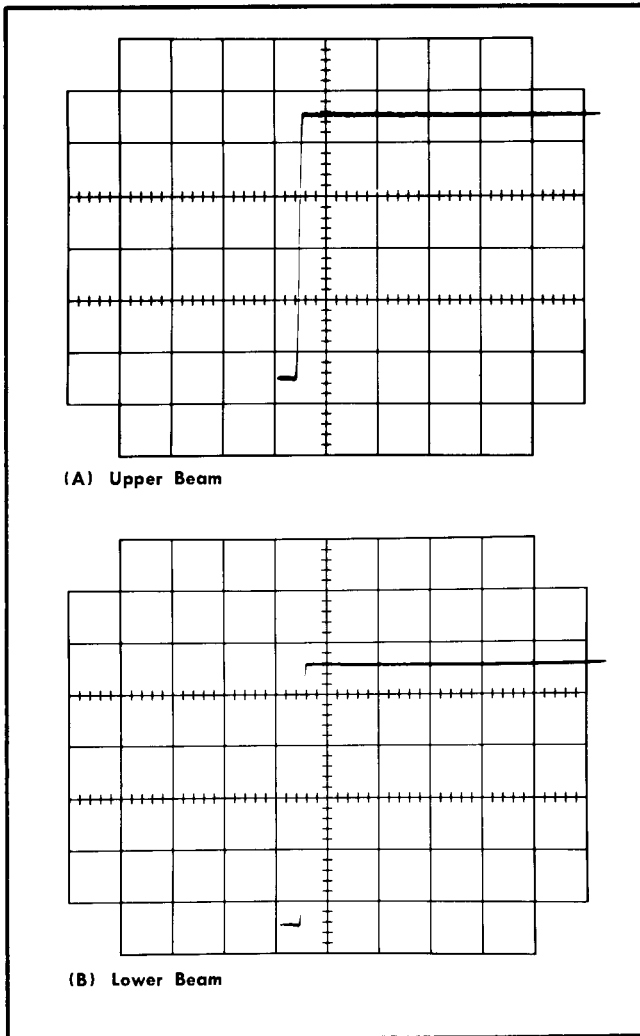
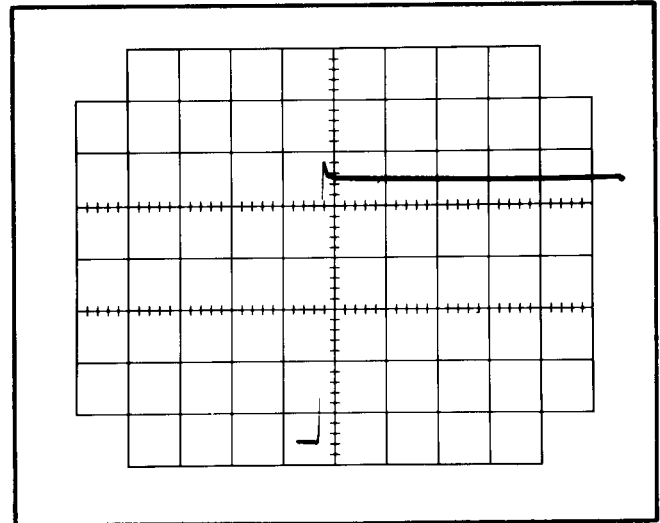

Fig. 6-61. Typical displays, high-frequency compensations correctly adjusted.
Fig. 6-62. Example of misadjustment of C244, right vertical amplifier; sweep speed 100 nanoseconds/cm.
Each resistor and capacitor time-constant network affects a different portion of the waveform; however, each adjustment interacts with all other adjustments. Close observation of the waveform while switching the DISPLAY MAG from $\times 1$ to $\times 10$ and vice versa as the adjustments are made will result in a square corner and flat top as illustrated in Fig. 6-61 (A) and (B). Also see Fig. 6-62 for an example of misadjustment.